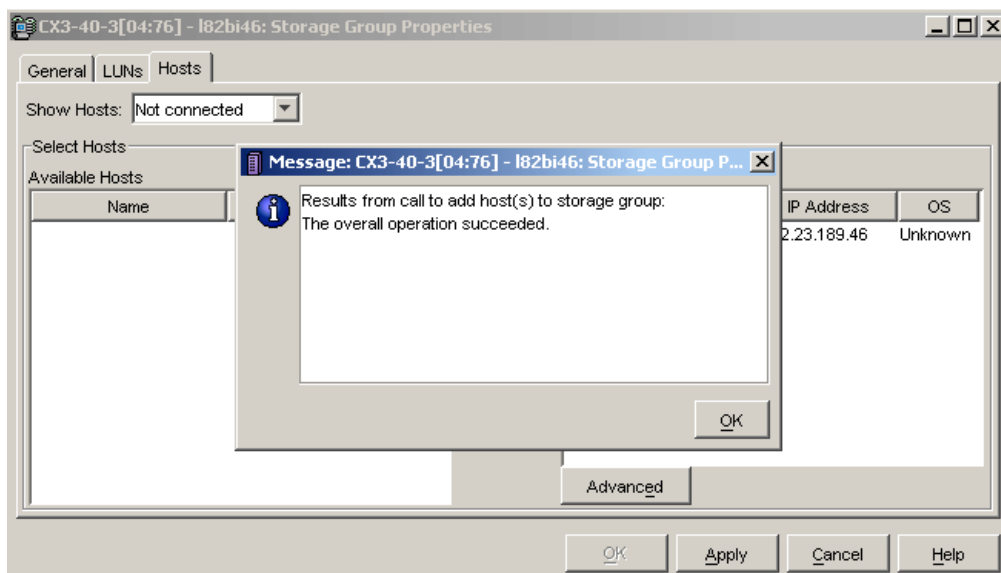

Figure 8-47 I82bi46: Storage Group Properties window
19. Click **Apply** and then click **Yes**. You will see a window similar to Figure 8-47.